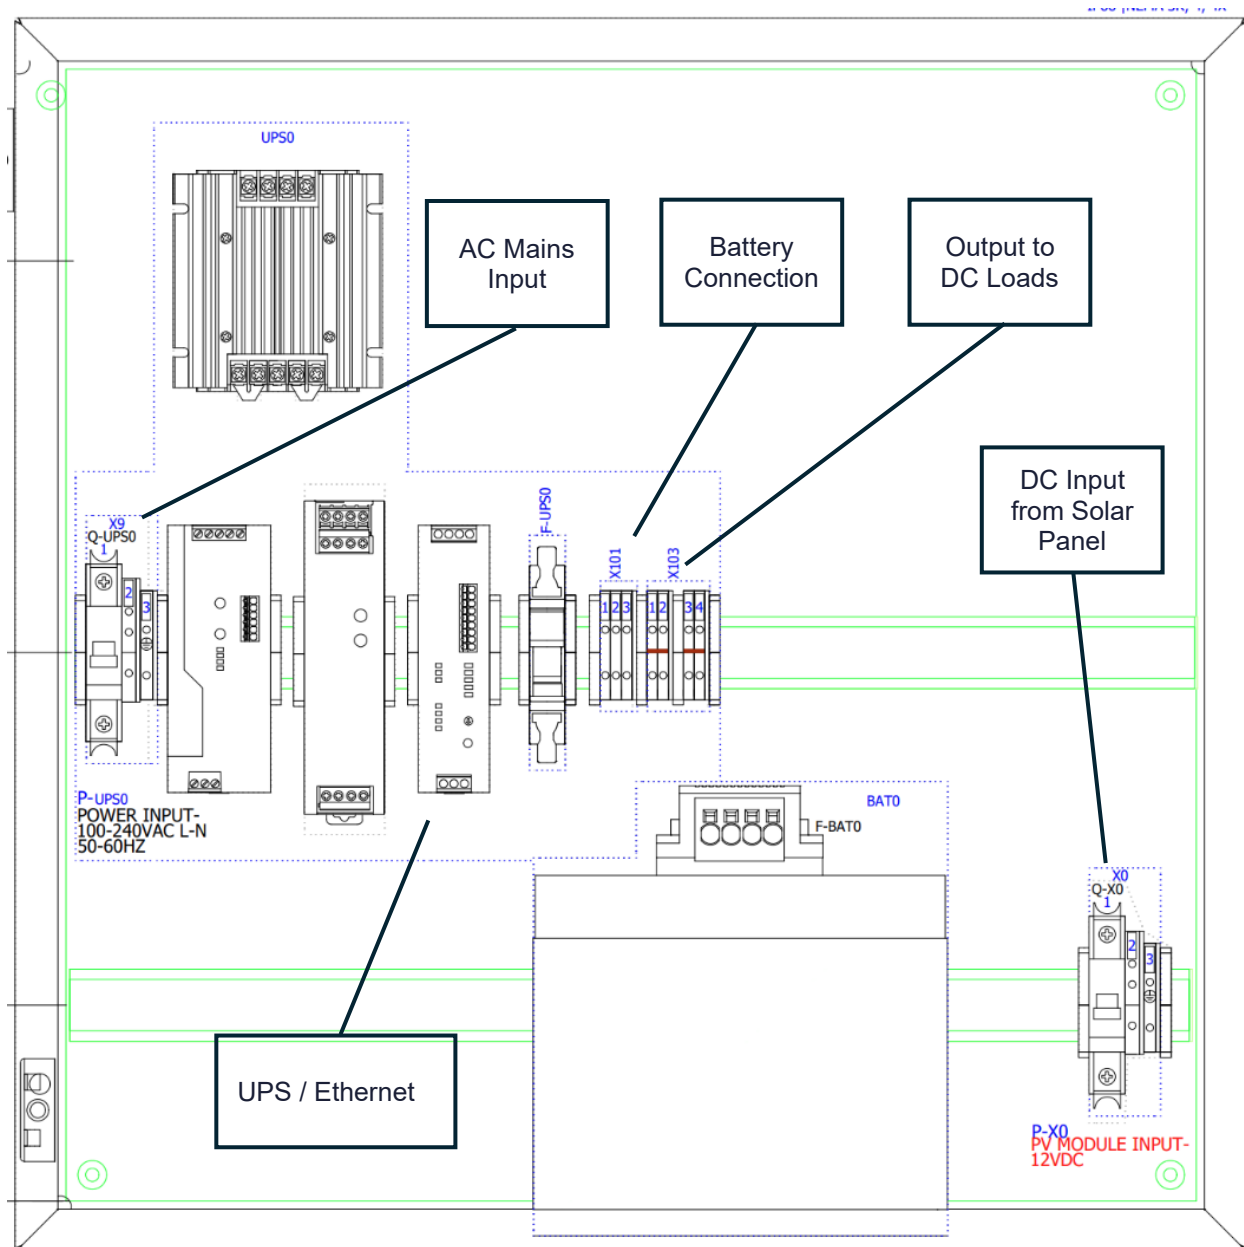
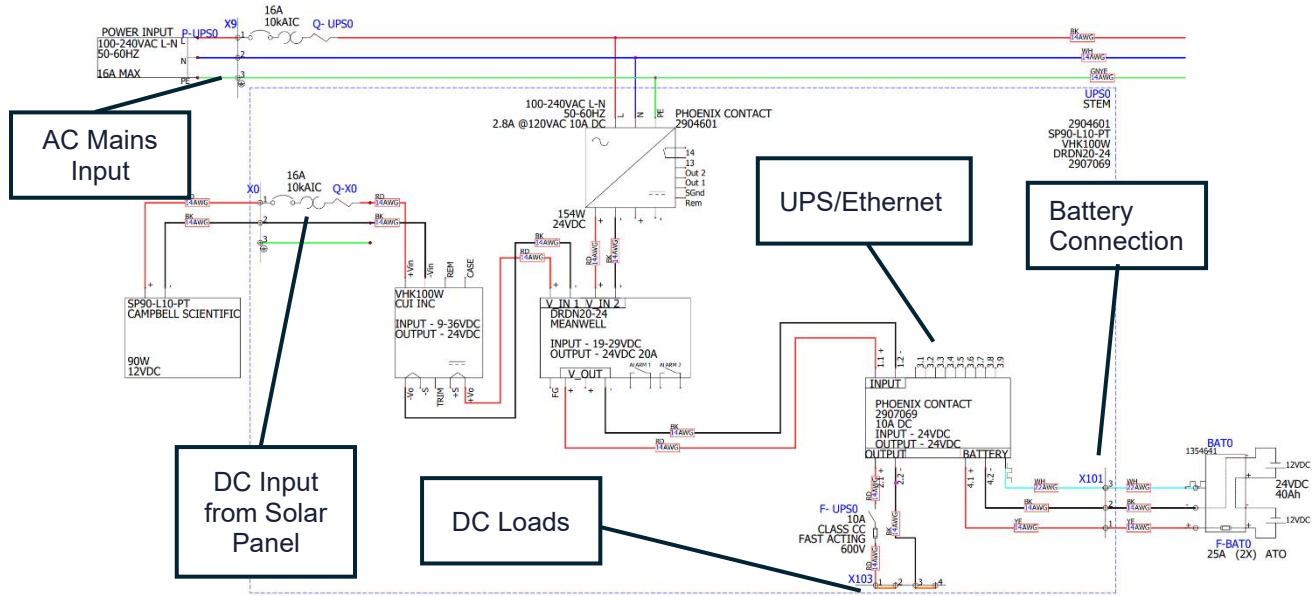

Figure 4 – Typical Solar Assisted UPS Cabinet Panel Layout
Figure 5 - Typical Solar Assisted UPS Schematic
Refer to Figure 4 and Figure 5 above.
4. Connect the battery control module to the UPS X101 terminals using the wiring packet supplied with the enclosure. (See Figure 4 and Figure 5 above)